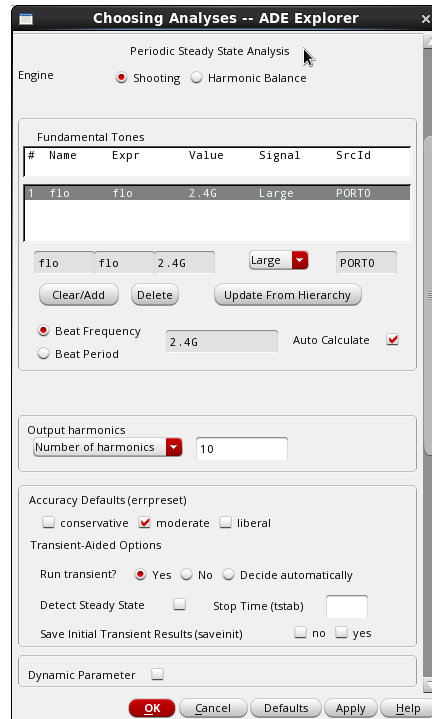

Fig.9
- In ADE, choose PSS simulation and set its parameters according to Fig. 9.